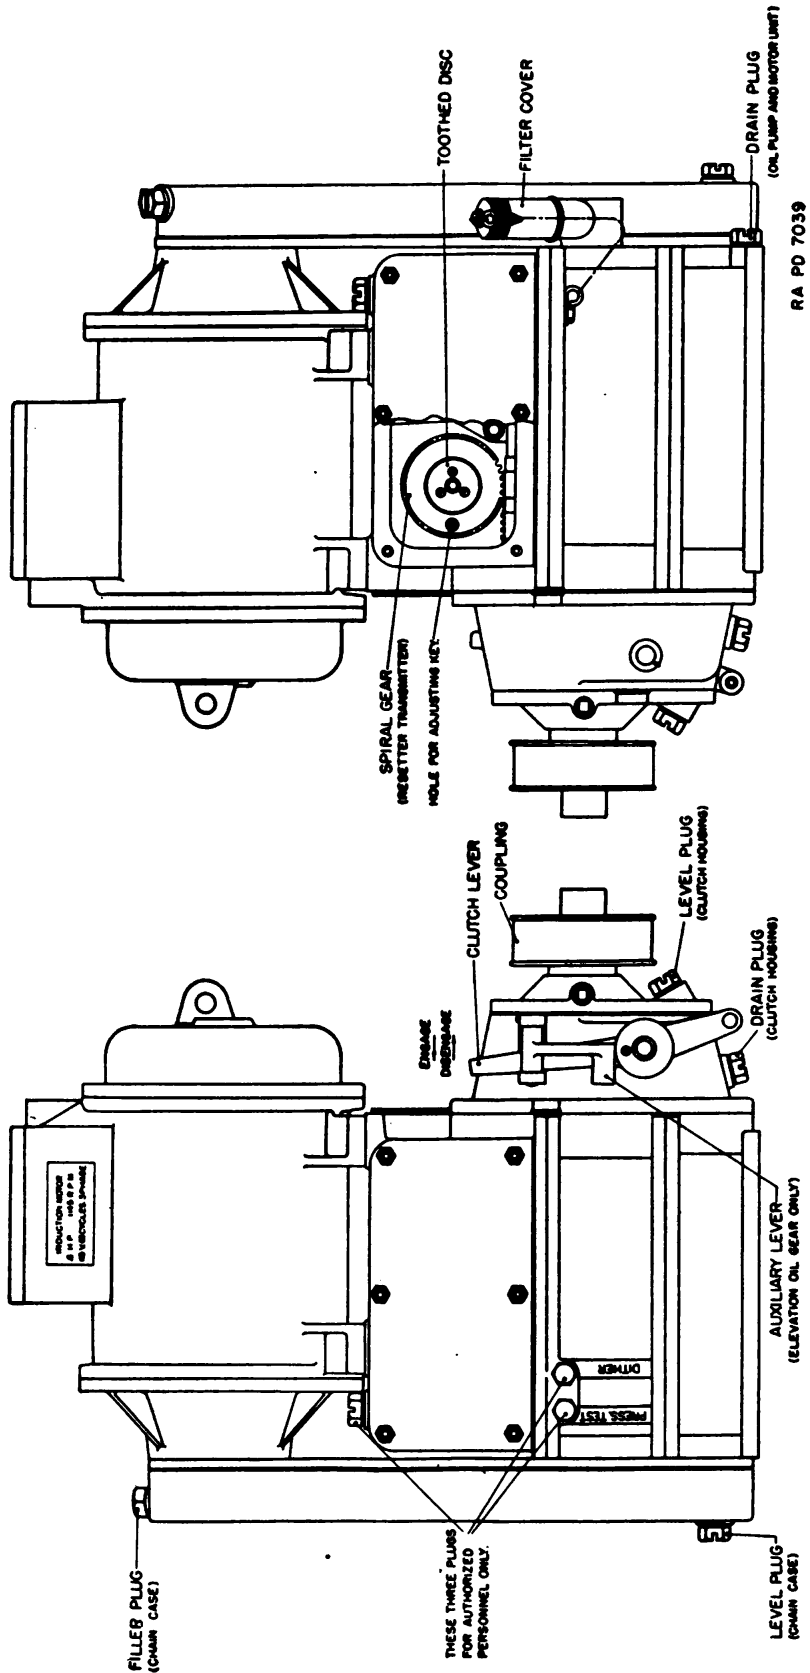

FIGURE 103.—Oil gear (portion of cover cut away to show adjustment of resetter transmitter).
(2) Two oil gear units are mounted on the top carriage. The elevation oil gear is on the right front portion, and the azimuth oil gear on the left front portion of the top carriage. Each oil gear (fig. 103) is a weather-tight assembly consisting of an electric motor at the top, then an electrical control unit, and at the bottom, an oil pump and oil motor in a single housing. The electric motor drives the oil pump through a chain drive enclosed in an oil-tight housing. The electrical control unit operates a sensitive valve which controls the flow of oil to the oil motor. The lower rear portion of each oil
(5) Remove the four nuts holding the rear bell housing of the induction motor to the motor housing. Rotate the bell housing 180 degrees and secure in place in the new position.
(6) Interchange the pipe plug and grease fitting in the clutch housing cover and secure in place.
(7) Remove the cotter pin on the shaft pin which supports the auxiliary locking lever (fig. 103). Drive out the shaft pin and remove the locking lever. Insert the spare sleeve, drive the shaft pin back in place and secure it by means of the cotter pin.
(8) An azimuth unit can be converted to an elevation unit by reversing the above replacements and assemblies.
(4) At regular intervals, depending on service conditions, fill the chain case and the clutch housing (fig. 103) with oil, hydraulic, to the level of the level plug holes. The chain requires lubrication with grease at six-month intervals, but since this calls for partial disassembly it should be performed only by qualified personnel.